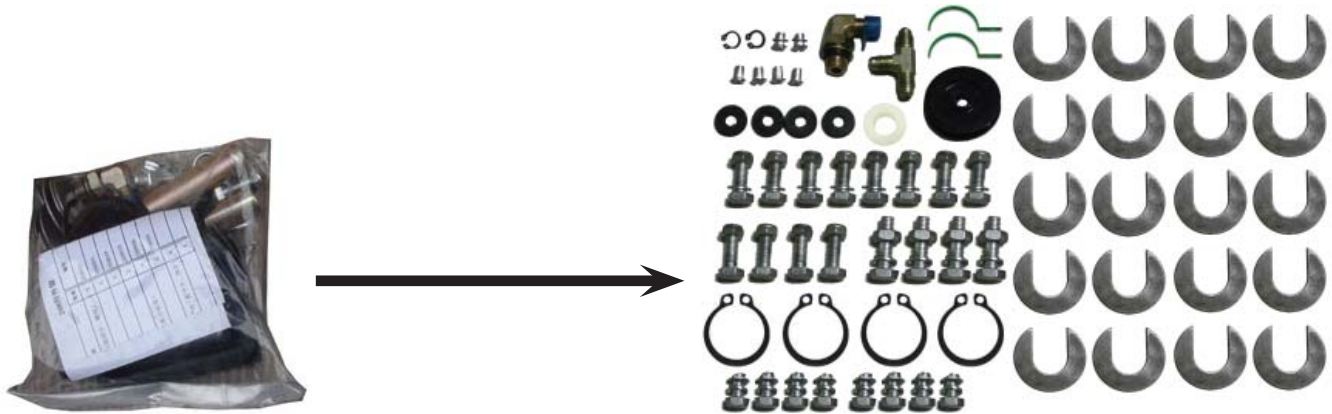

Fig. 10
5. Check the parts of the parts bag according to parts bag list (See Fig. 10).